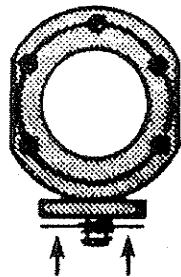

Figure 6 Install Indium Gasket
11. Cut an indium gasket to fit the end of the second stage heat station. Put a hole in the gasket center for the mounting stud on the sample holder. Put the gasket on the bottom of the sample holder. See Figure 6.